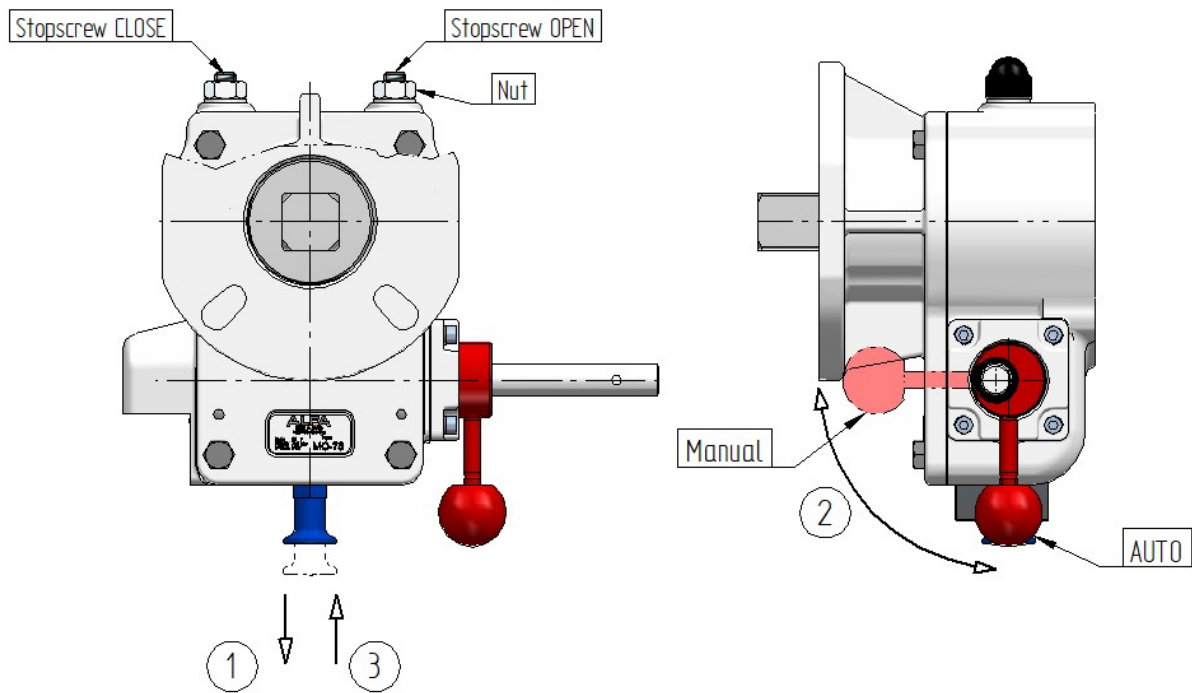
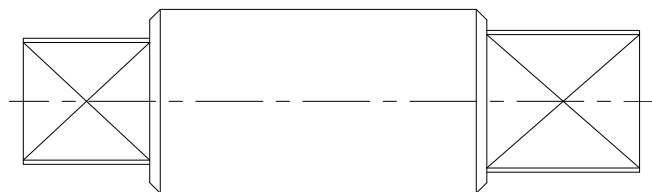

Figure 6: MO SERIES gearbox stop screw adjustment
Figure 7: Driveshaft example from an MO SERIES gearbox
10. The 3/2-valve is optional and meant for gearbox mode detection. The 3/2 vent valve is open (and vents to atmosphere) with the gearbox in manual mode. Figure 6
2. Put the gearbox in the manual-mode by turning the handle 90 degrees clockwise (see 'operating' and/or figure 6: 1 (pull the nob) → 2 turn the selector → 3 loose the nob and make sure it is released in.
When the fully closed position can not be achieved, loosen the stopscrew-close (see figure 6) Continue turning the handwheel until the valve is fully closed.
5. Open the valve by turning the handwheel counter-clockwise. When the fully open position can not be achieved, loosen the stopscrew-open (see figure 6). Continue turning the handwheel until the valve is fully open.
8. Pull the knob outwards (3) and turn the handle (counter clockwise) until knob falls back into its locked-position (2).
- b. Position the driveshaft (see figure 7) in top of the gearbox.